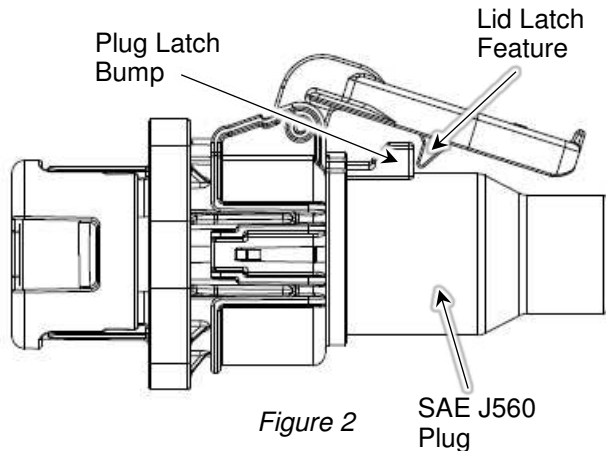

Figure 2
2. Push the plug into the receptacle until the latch bump on the plug passes beyond the latching feature on the lid. See Figure 2. To verify it is properly mated, pull slightly on the plug in the direction of removal. It should not pull back out.